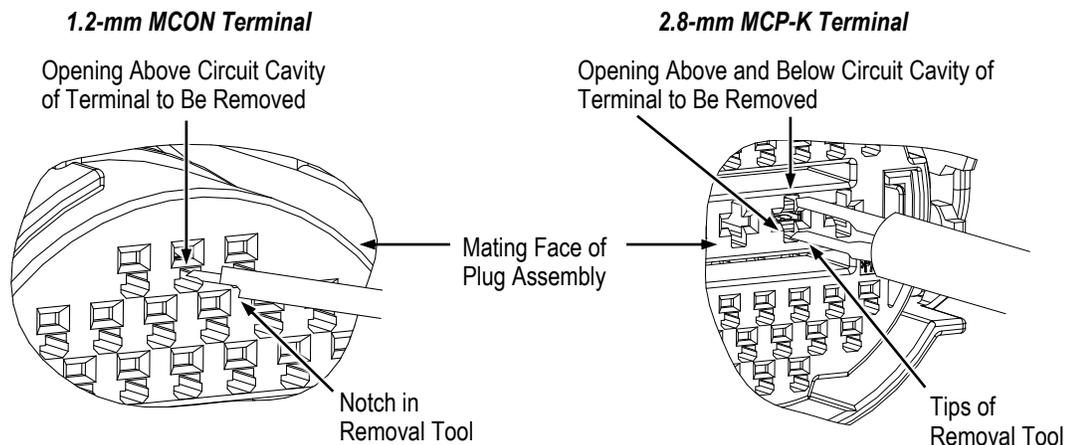

Figure 11
- a. For 1.2-mm MCON terminals, from the mating face of the plug assembly, insert the tip of removal tool 8-1579008-4, with the notch facing the contact cavity, into the opening above the circuit cavity of the terminal to be removed, and depress the terminal locking lance. See Figure 11, Detail A.
- b. For 2.8-mm MCP-K terminals, from the mating face of the plug assembly, insert the tips of removal tool 1-1579007-2 so that one tip enters the opening above and the other tip enters the opening below the circuit cavity of the terminal to be removed, then depress the terminal locking lances. See Figure 11, Detail B.